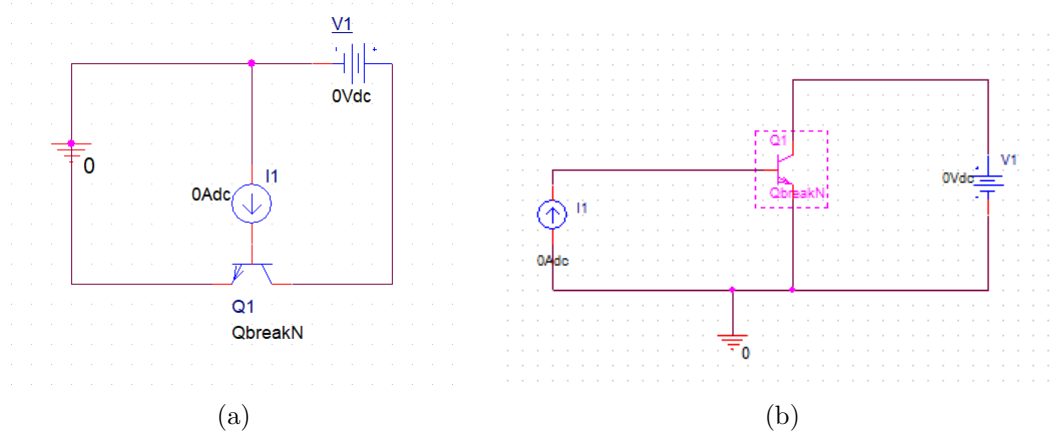

Figure 8: I-V Characteristics Set Up a) As described. b) Alternative. Same circuit just differently laid out.
18. Return to your circuit, remove the emitter voltage source and the current gain markers. Place a DC current source at the base node. See Figure 8.